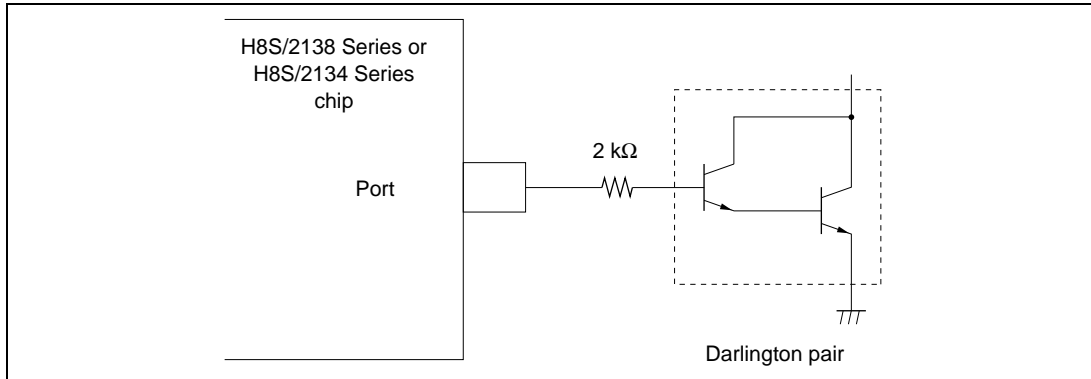

Figure 24.1 Darlington Pair Drive Circuit (Example)
2. When driving a Darlington pair or LED, always insert a current-limiting resistor in the output line, as show in figures 24.1 and 24.2.